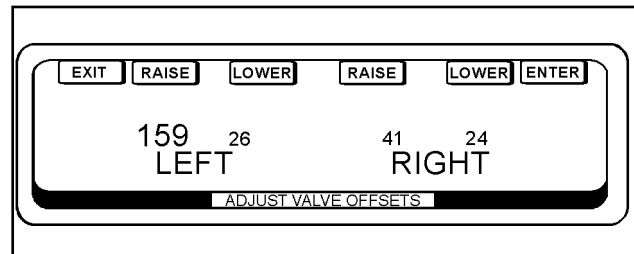

FIGURE 3-14. ADJUST VALVE OFF-SET
blade off the ground (Figure 3-1, item 32). With the engine at full throttle, select either the RAISE or LOWER key (Figure 3-14) for the left elevation valve. Using the left rotary knob, dial the number to 0. Slowly increase the number until the blade just begins to move.
Set the other signal for the left elevation valve, and the signals for the right elevation valve in the same manner. In Figure 3-14, 159 and 26 represent the voltage being used to raise and lower the left side (grade), while 41 and 24 represent the voltage used to raise and lower the right side (slope or tilt).